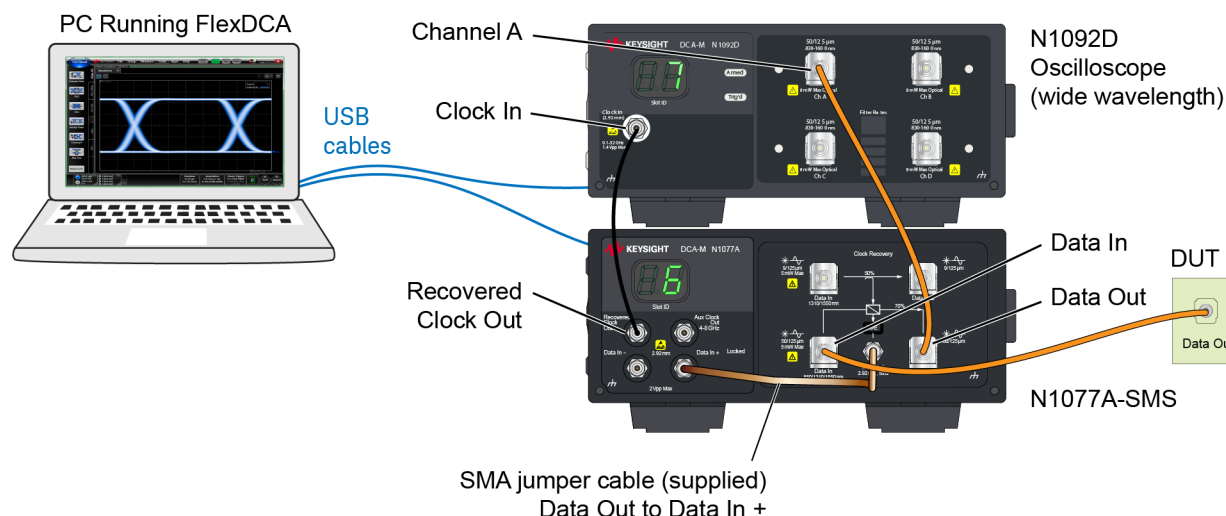

Figure 32. Typical Connection Setup
3. Connect the N1077A as shown in *Figure 32 on page 75*. If connecting to an N1000A (or 86100D) instead of a PC, be sure to connect the USB cable to the DCA-X's *rear-panel* USB port. Notice in this example that the N1077A multimode optical connectors are used: